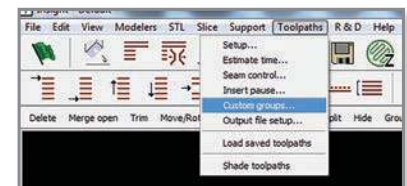

Figure 5: Custom groups are accessed from the Toolpaths menu.
1.1 **Custom Groups** are accessed from the **Toolpaths** drop-down menu (Figure 5). When creating a new group, all of the options and parameters that can be modified are displayed (Figure 6).